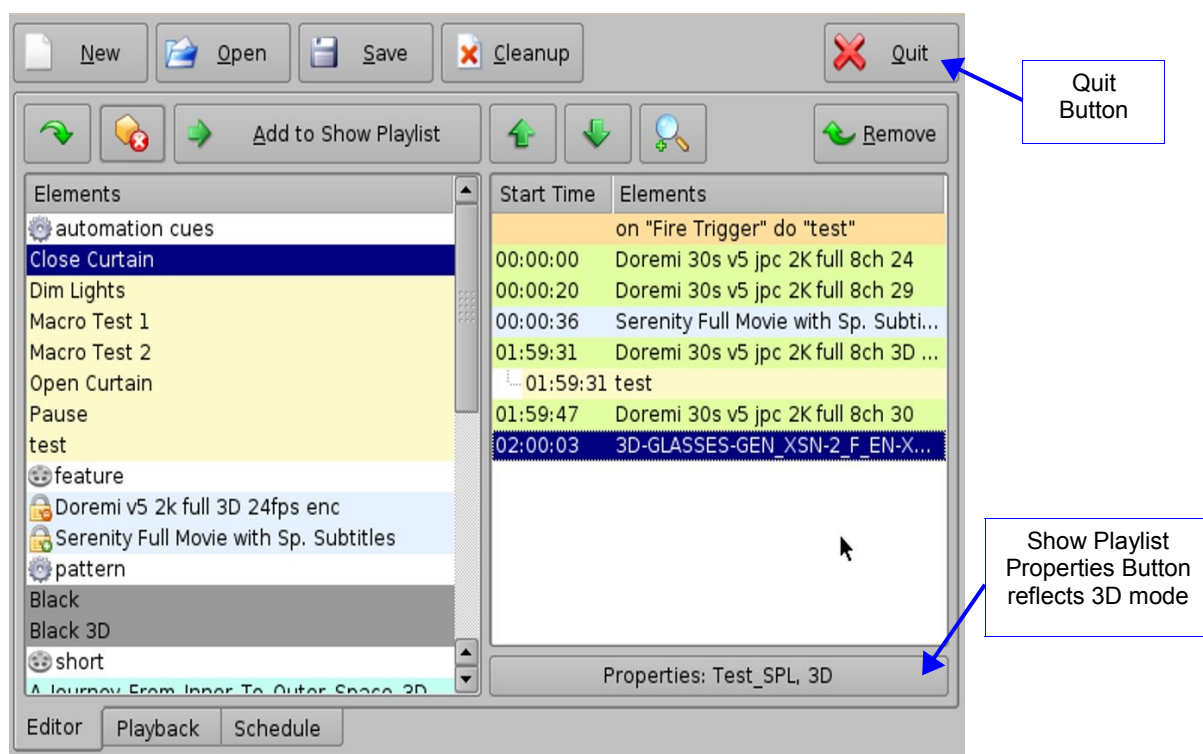

Figure 176: CineLister GUI – Editor Tab
- The Show Playlist Properties button will reflect the name of the SPL and what mode it is set to (Figure 176).